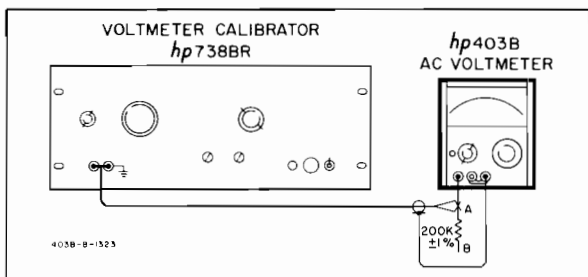

Figure 5-4. Performance Check Setup.
b. Connect the 403B as shown in Figure 5-4.
a. Disconnect the 403B from the setup shown in Figure 5-4 and rotate the 403B FUNCTION switch to ON.
a. Connect the 403B as shown in Figure 5-4 (Position B).
b. Connect the 403B as shown in Figure 5-4 (Position A).